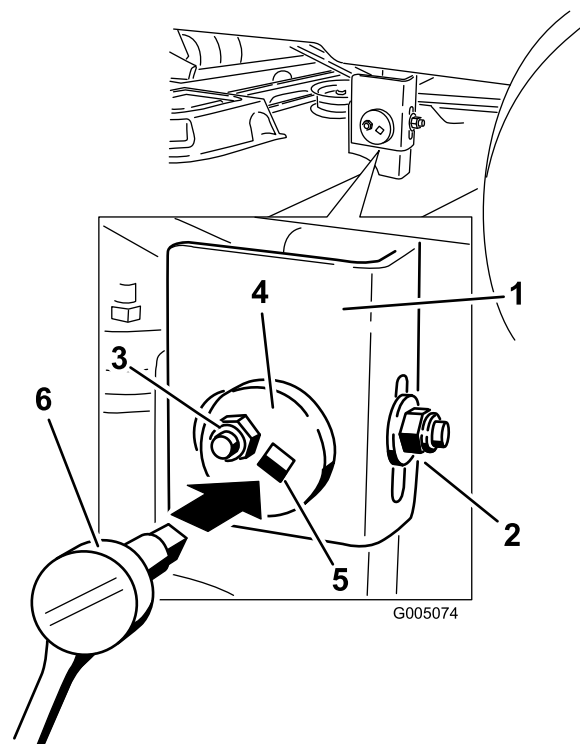

Figure 42
7. Move the left side of the machine. Loosen, but do not remove, the rear locking nut on the hanger bracket (Figure 42).
8. Loosen the side locking nut on the hanger bracket just enough to allow the eccentric plate to be adjusted (Figure 42). Use a 3/8 inch drive extension on a socket wrench to manipulate the eccentric plate. Use the wrench to reposition the height of the mower deck and adjust to the desired height.
9. Stop the deck at the adjusted position and tighten the side locking nut on the hanger bracket to hold the new position (Figure 42).